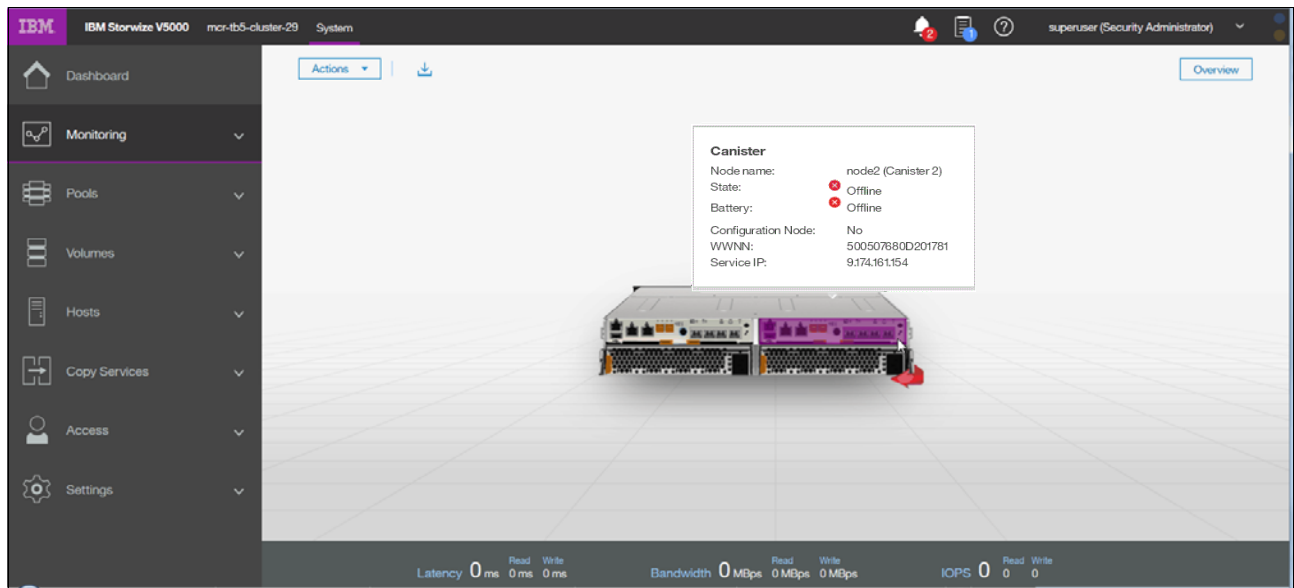

Figure 12-114 Checking the canister state
4. After the node canister is powered off, you can confirm that it is offline in the System panel, as shown in Figure 12-114.